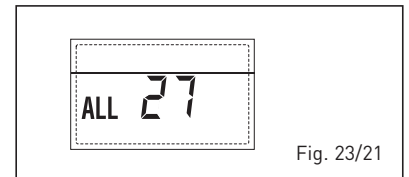

Fig. 23/21
- ANOMALIA COERENZA INGRESSO (S3) SOLO PER IMPIANTO 7 "ALL 28" (fig. 23/22)